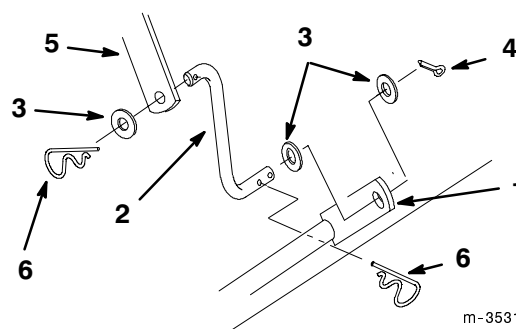

Figure 5
7. Install link to mower lift arm with 1" cotter pin, (2) 3/8" washers and a 2-9/16" hairpin cotter (Fig. 5). Attach rear link to tractor rear attachment lift arm with a 3/8" washer and a 2-9/16" hairpin cotter (Fig. 5).